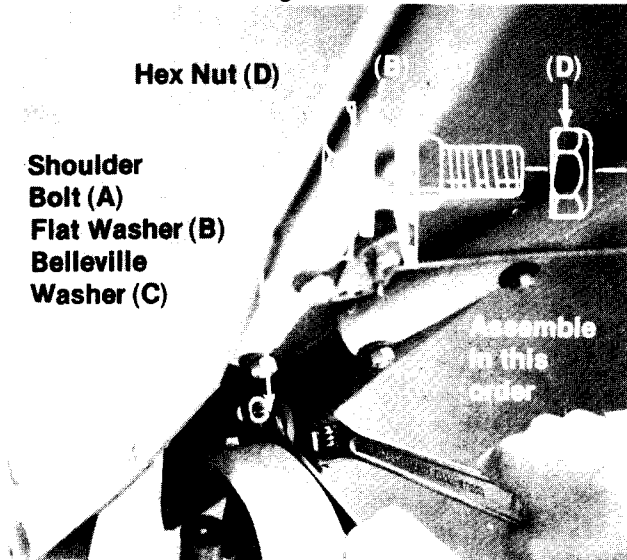

FIGURE 4.
- B. Place flat washer (B) and belleville washer (C) over shoulder on shoulder bolt (A). Place shoulder bolt and two washers through handle mounting holes and secure with hex nut (D) from the inside of handle. See figure 4.